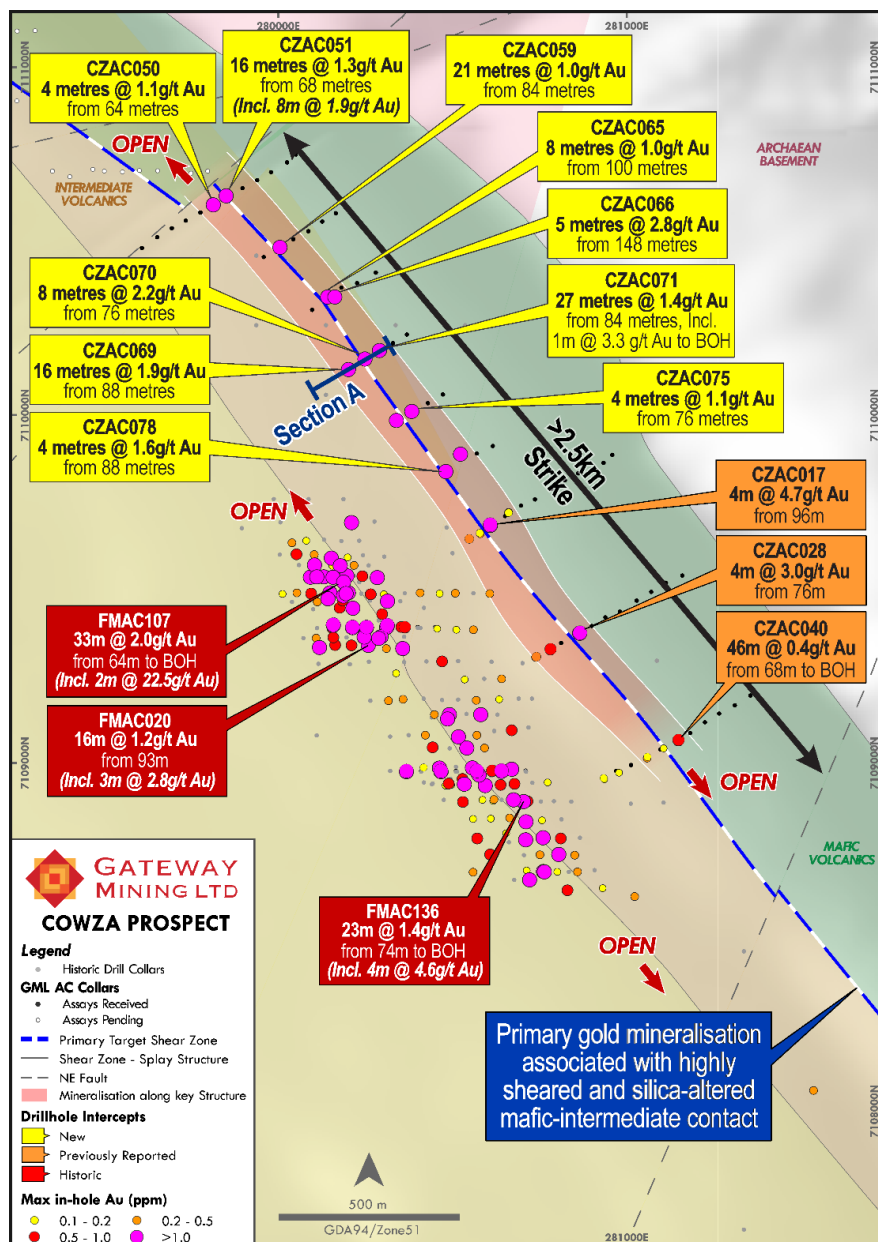

Figure 1: Plan view of the growing Cowza mineralisation footprint.
- Follow-up step-out drilling at the recent Cowza discovery has returned consistent high grade-gold intercepts across each drill line (Figures 1 and 2), including:
Gateway's Chief Executive Officer, Mr Richard Pugh, said: "On June 22nd, Gateway announced the discovery of a new high-grade gold zone at Cowza, which drilling had defined over a strike length of 800m. Subsequent step-out drilling has continued to intersect the same gold system on every line, with the strike length now growing to approximately 2.5 kilometres (Figure 1).
This recent aircore drilling program at Cowza has successfully demonstrated the continuity of a high-grade gold system over a minimum strike length of ~2.5 kilometres (Figure 1). Mineralisation is structurally controlled and intimately associated with a major, regionally significant shear zone developed along a preferential contact between the intermediate volcanic package and the mafic volcanic sequence.
The spatial distribution of the new results appears to confirm that the gold system is highly continuous and predictable along the target structure (Figure 1).